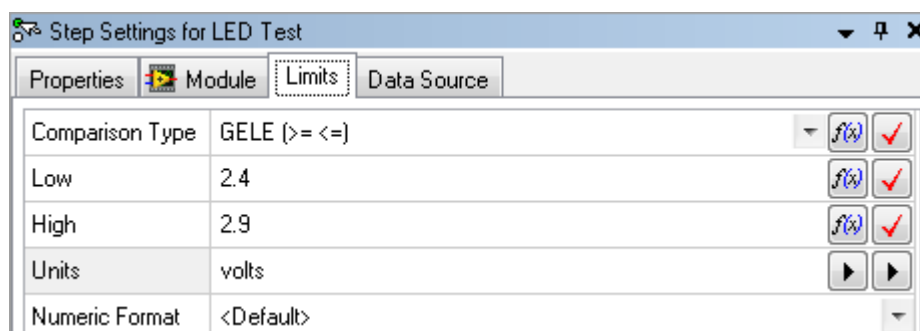

Figure 1-15. Limit Settings for LED Test
- Set the limits in the Edit Numeric Limit Test dialog box to the values shown in Figure 1-15. Ensure that Units is set to “volts”. In this case, the step will fail for measurements outside of 2.4 V and 2.9 V.